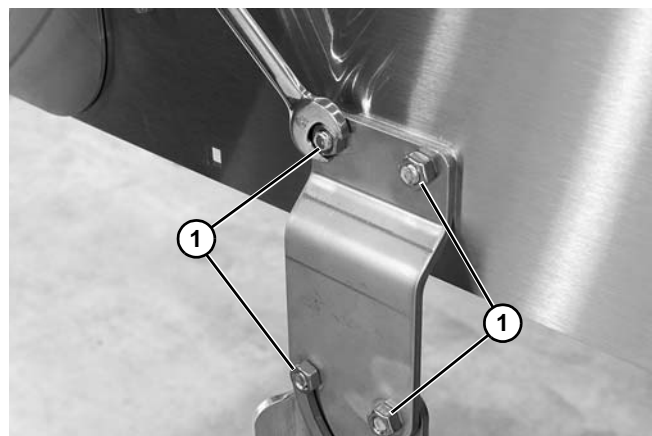

Figure 9
2. Remove fasteners (**Figure 9, item 1**) securing the stand brackets from one side of the conveyor and remove brackets.